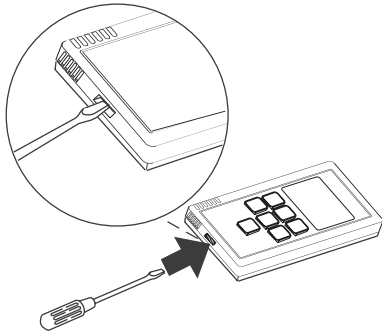

Fig. 3-3-2
1. Insert a screwdriver or the like in the groove on the lower side of the simplified remote controller body to pry off the back case. (See Fig. 3-3-2)